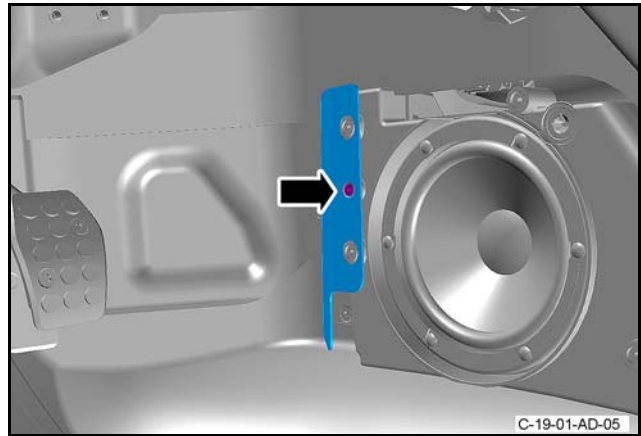

Figure 19
39. Put the bracket in position at the front of the footwell speaker (refer to Figure 19).